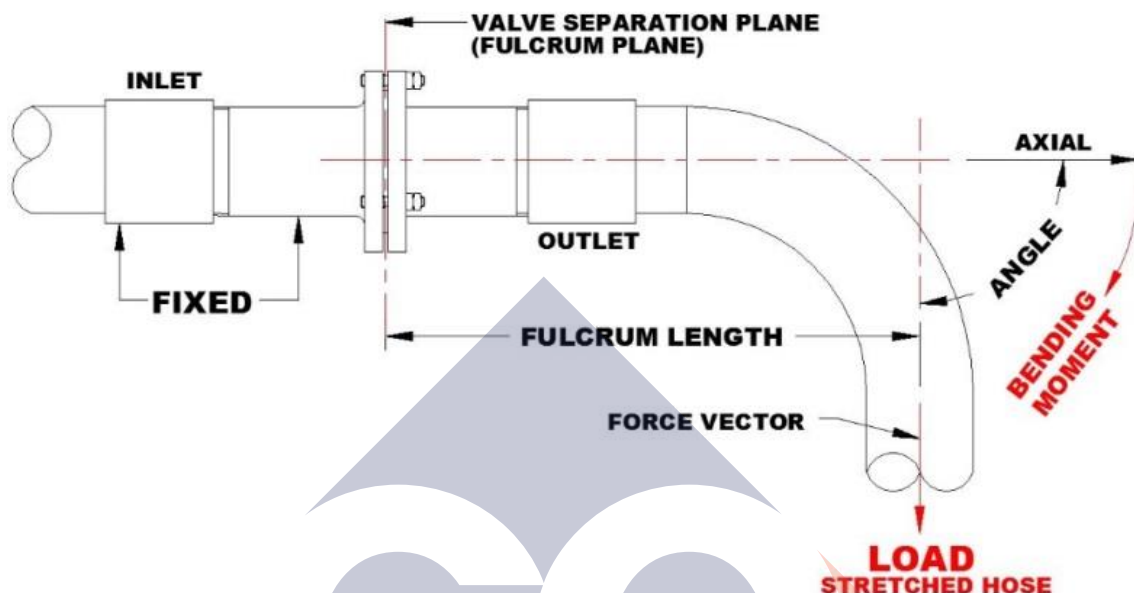
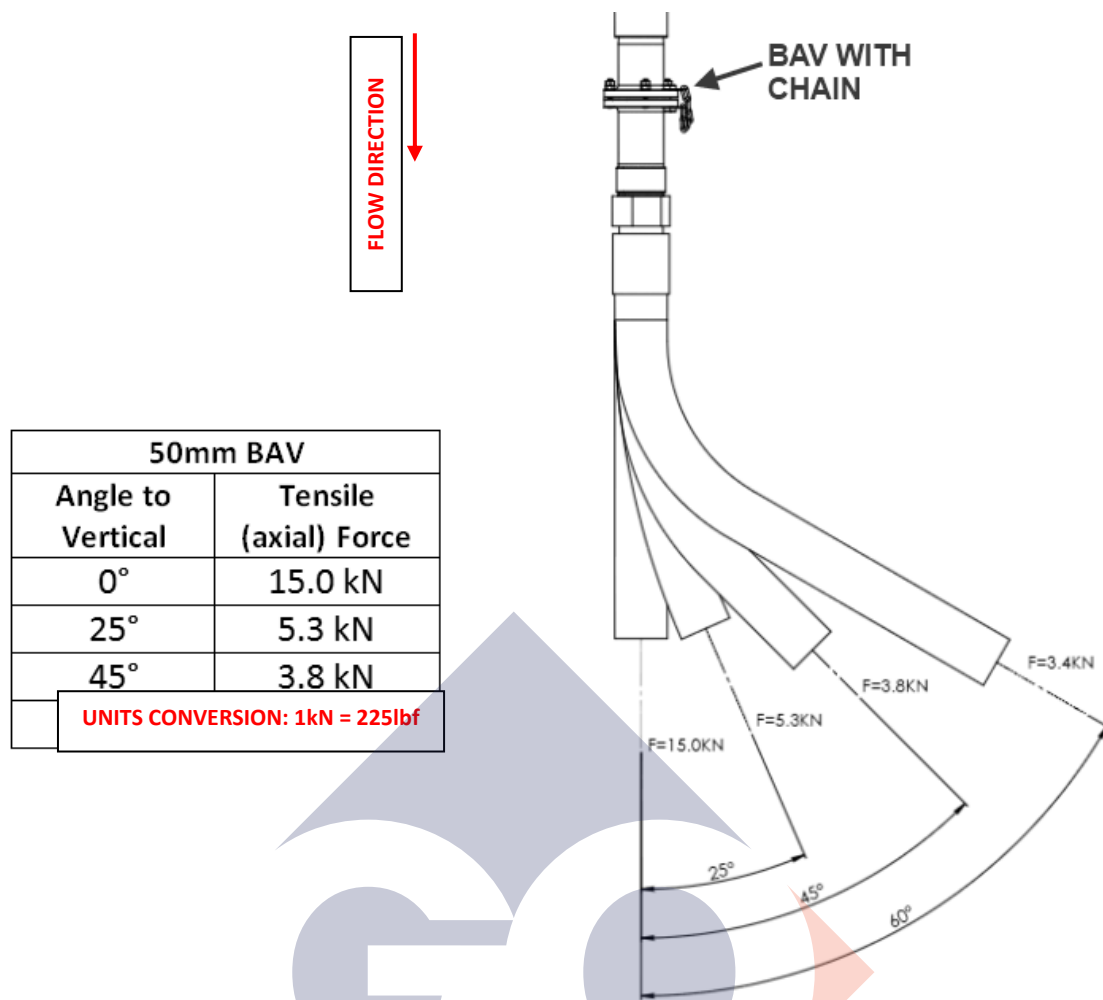

Figure 8 - Illustration of BAV subjected to Cantilevered Load (Bending Moment)
Figure 9 - BAV install onto a Loading Arm with "Break-Away" Forces (2", DN50 BAV)
A Banlaw Break-Away Valve (BAV) is designed to be installed within a configuration as per Figure 8, specifically within a **bending moment** (i.e. cantilevered) orientation to the attached dispensing hose during a drive-away. A Banlaw BAV is not designed to be oriented in an axial (direct pull) arrangement. As a guide, *peak* axial (direct tensile) loads exceeding 25kN (5,620lbs) have been measured during laboratory testing of BAV's by Banlaw
The following data details the bending moment required to cause separation (disconnection) of a BAV. Note the data varies according to the orientation of the studs, with the basic arrangement in Figure 8 illustrating a bending moment (i.e. cantilever action) applied to a BAV in a “12 o’clock” stud position (i.e. a stud is located opposite the direction of the applied load via the hose).
Figure 9 illustrates a 2" BAV and the approx. force required to cause valve separation with respect to the angle at which the force (load) is applied relative to the central axis (i.e. fulcrum plane) of the BAV. All data is based on a 2" BAV in "as new" condition, fitted with genuine Banlaw parts, and a **fulcrum length** (refer Figure 8) of approx. 340mm (13.4"). This data is for the fracture of the 3 of Studs only, with a **subsequent** force required to fracture a Chain Mount Plate (refer Table 3).
The data referenced in Table 4, Table 5 and Figure 9 is approximate (guide only), and will vary according to a number of factors (variables), including;
- The size (2" or 3") of the BAV (for Figure 9).
- Whether "standard" or "higher tensile" (HT) Banlaw studs are installed.
- The effective fulcrum length between the (applied) force vector and the lateral axis (fulcrum plane) of the BAV (refer Figure 8).